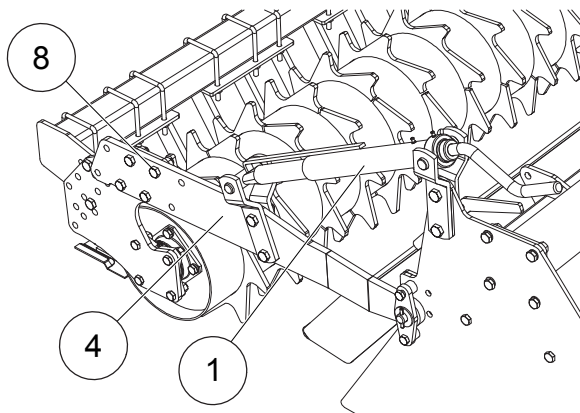

FIG. 9
- Fit the roller unit. Loosen the screws (8, “Fig. 9”) of the roller supports to the arm (4).
- Mount the roller adjustment jacks (1, Fig. 9).